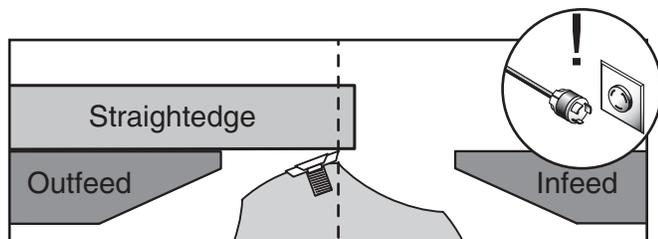

Figure 34. Using a straightedge to align the outfeed table height with insert at TDC.
4. When correctly set, the carbide insert will just touch the straightedge when the insert is at its highest point of rotation (see **Figure 34**).